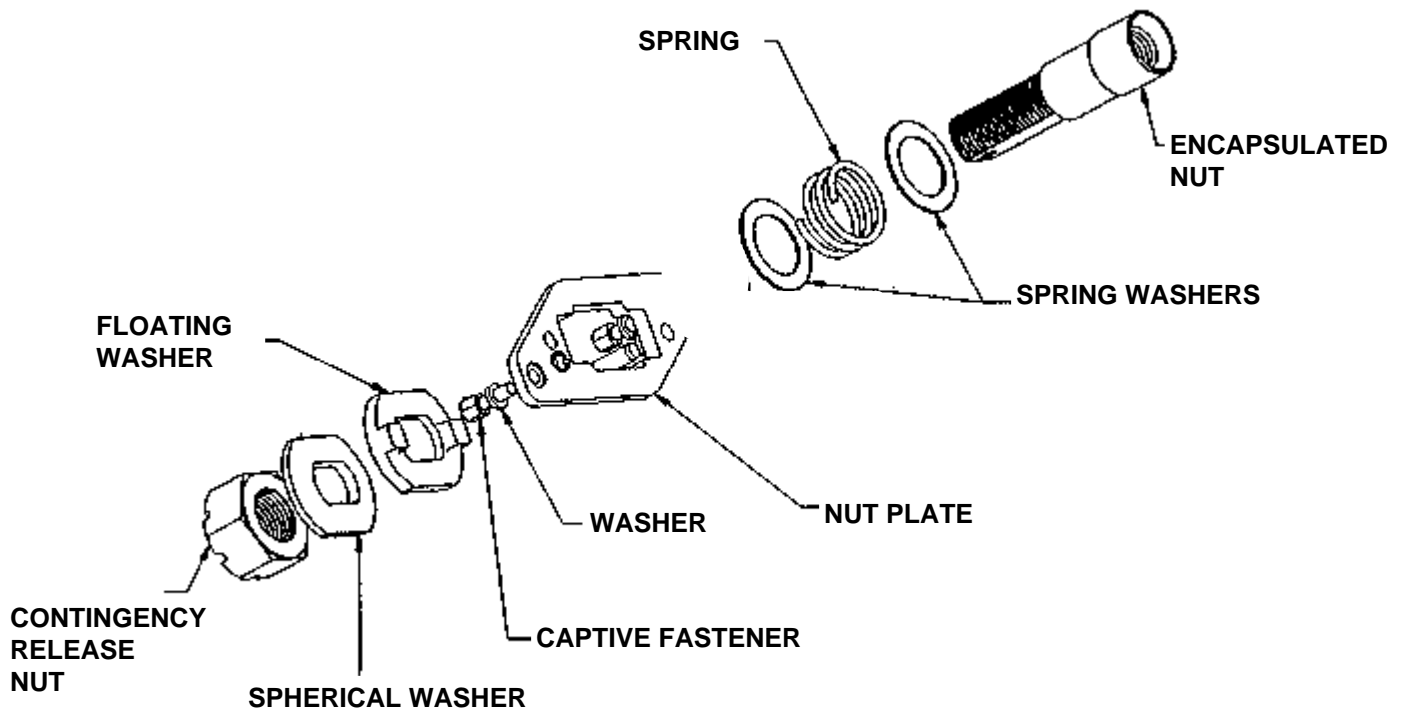
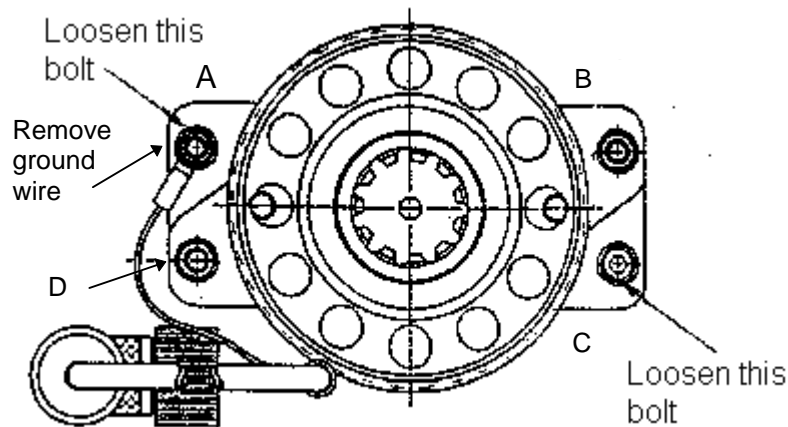

Figure 2.- Powered Bolt Nut Assembly.
Figure 3.- Powered Bolt - Top View (with Actuator Removed).
Remove powered bolt nut assembly contingency release nut (steps 12 through 18). See Figure 2.
In steps 15 or 16, loose items may be freed (spring, two washers). See Figure 2. In step 15, ground wire will be released when bolt A is loosened. Note orientation of wire so that it may be reinstalled in a similar manner on spare powered bolt. See Figure 3.
15. Remove, temporary stow powered bolt, encapsulated nut, from ACBM by loosening hex head fasteners (two) (Ratchet 1/4" Drive, 2" Ext, 5/16" Socket). See Figure 3.
Label, temporary stow. See Figure 3.
22. Slide lug on ground cable under washer of fastener A or C. See Figure 3.